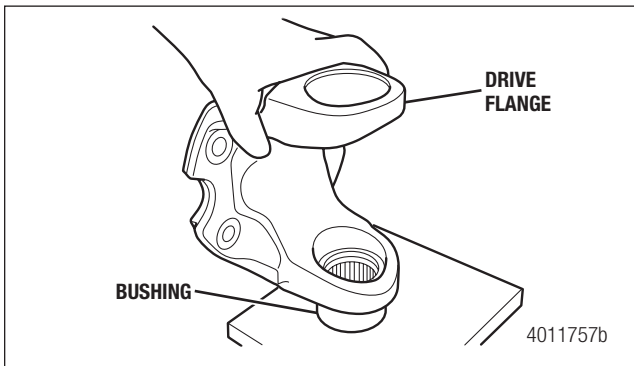

Figure 5.83
2. Insert the bushing on the bottom of the joint. Figure 5.83.